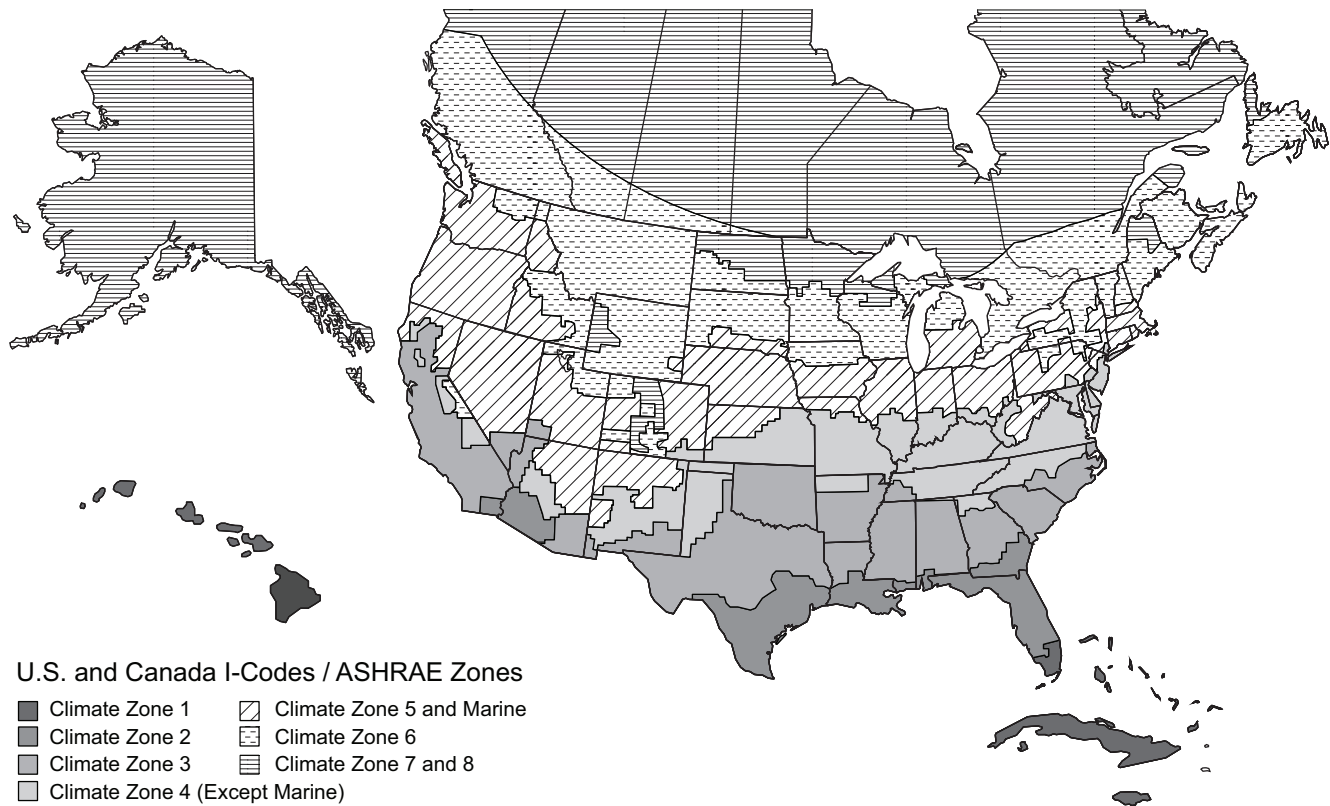

Fig. 79 — U.S. and Canada Climate Zones
- a. See Fig. 79 for map of U.S. and Canada climate zones.